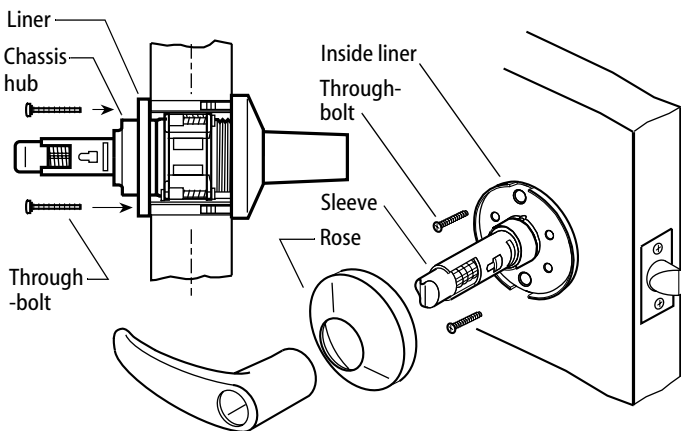

Figure 6 — Installing liner, through bolts, rose, and lever
- Install through-bolts through the liner and door in the top and bottom holes (see Figure 6).